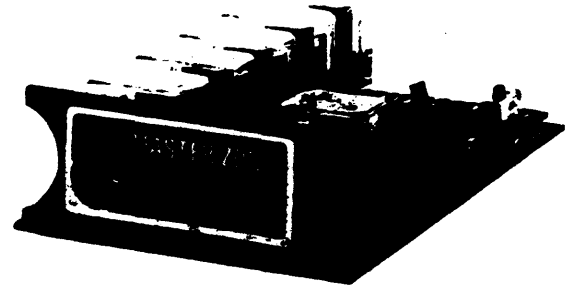

Fig. 11—Master Zone Card
3.40 The Master Zone Card (Fig. 11) provides the basic zone paging for zones 1 to 4. It also provides the all-call and the common control for zones 1 through 24. If background music is provided, it will be silenced throughout the entire system whenever any individual zone or all-call is accessed for paging. The Master Zone Card mounts in the **MASTER** position in the card file.